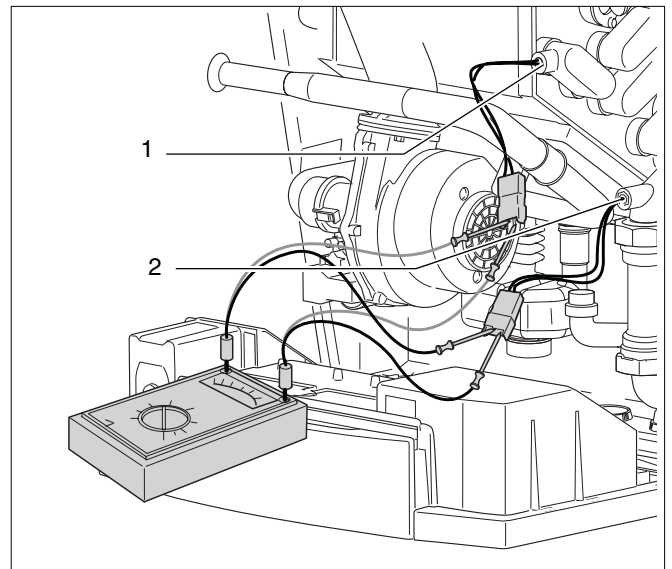

Fig. 53 Checking the supply/return sensors
Supply sensor see fig. 53, pos. 1.
Return sensor see fig. 53, pos. 2.